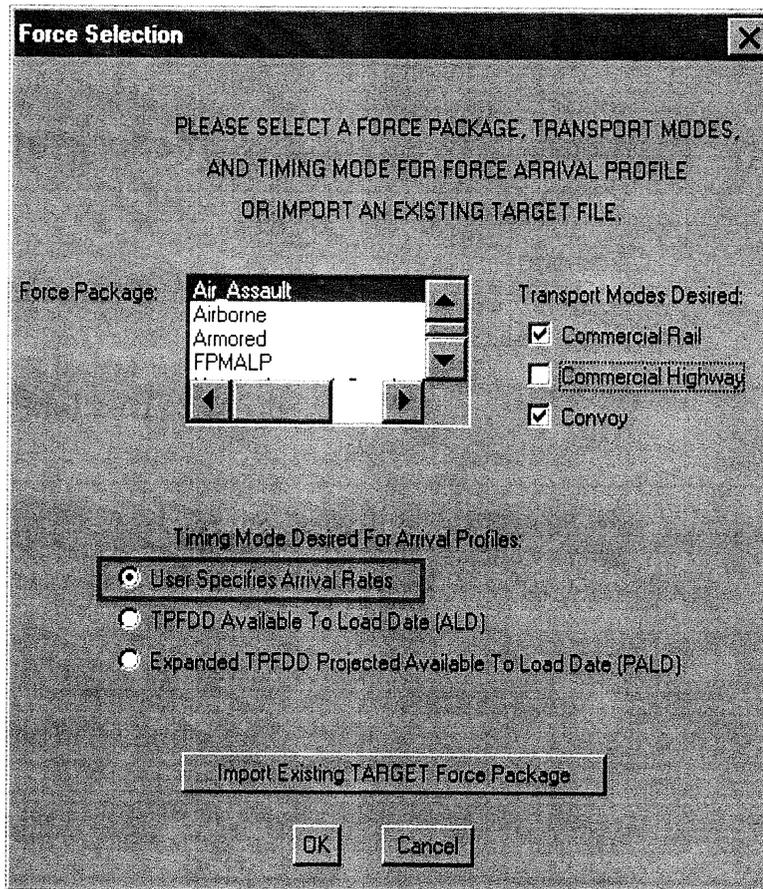

Figure 7: Stochastic Cargo Arrival — Option 1
1. When creating a new scenario or modifying an existing scenario, make the following series of choices on the PORTSIM menus and windows (Figure 7):